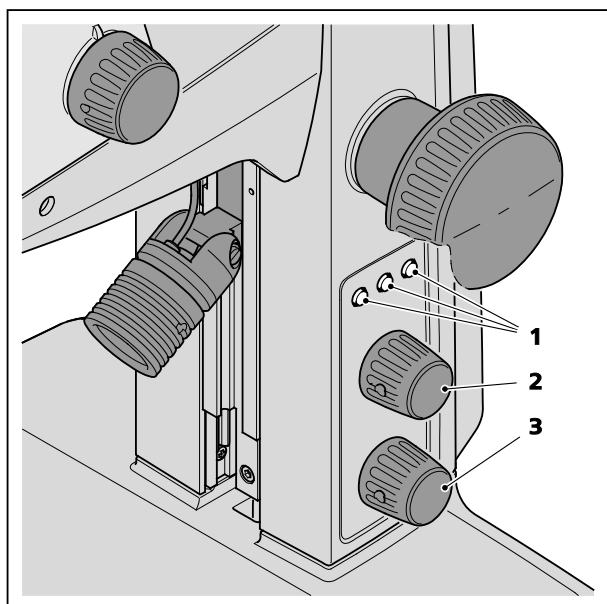

Fig. 6 Operating the memory keys
Stand M LED has three memory buttons (Fig. 6/1) to save different illumination settings and to permit rapid switching between different reflected, transmitted and mixed illumination types.
- Turn on the desired illumination types (reflected and / or transmitted light) by pressing the top (Fig. 6/2) or bottom knob (Fig. 6/3).
- Adjust the desired intensity of the reflected and / or transmitted light illumination by turning the top (Fig. 6/2) or bottom knob (Fig. 6/3).
- Choose one of the three memory buttons (Fig. 6/1) and hold it down for 3 seconds. All 3 buttons will light up when the settings have been successfully saved.